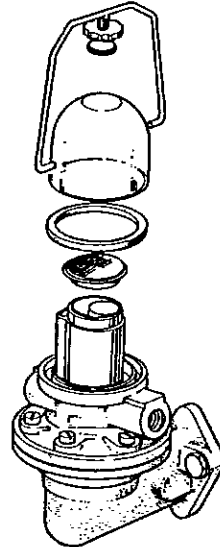

Fig. 23. Fuel Pump
1. Unscrew the clamp nut on top of the fuel pump (fig. 23).